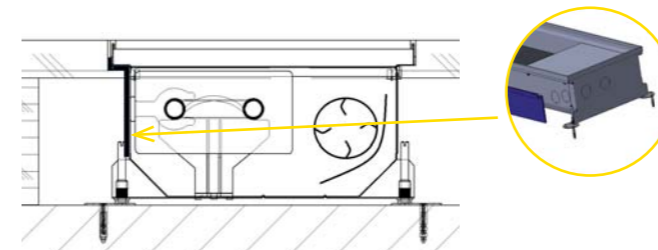

Figure 6: Hollow floor - thermal insulation for floor convector with fan to protect the floor on the exchanger side .
- At your own discretion (parquet, floating, or wooden floors), install thermal insulation on the outside of the convector vat on the heat exchanger side. (Figure 6).